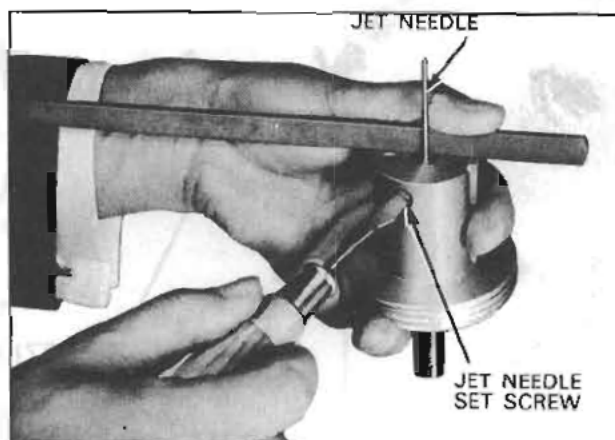

Fig. EF-51 Installing the jet needle
5. Idling and other operating performance features will be adversely affected if the jet needle is not installed correctly in the suction piston. Set the jet needle in the suction piston so that the shoulder portion is flush with the bottom of the suction piston. Apply an appropriate tool having a horizontal (flat) surface such as slide calipers to the lower end, as shown in Figure EF-51, so that the shoulder of the jet needle contacts this surface, and tighten the jet needle set screw. The jet needle will then be installed correctly.